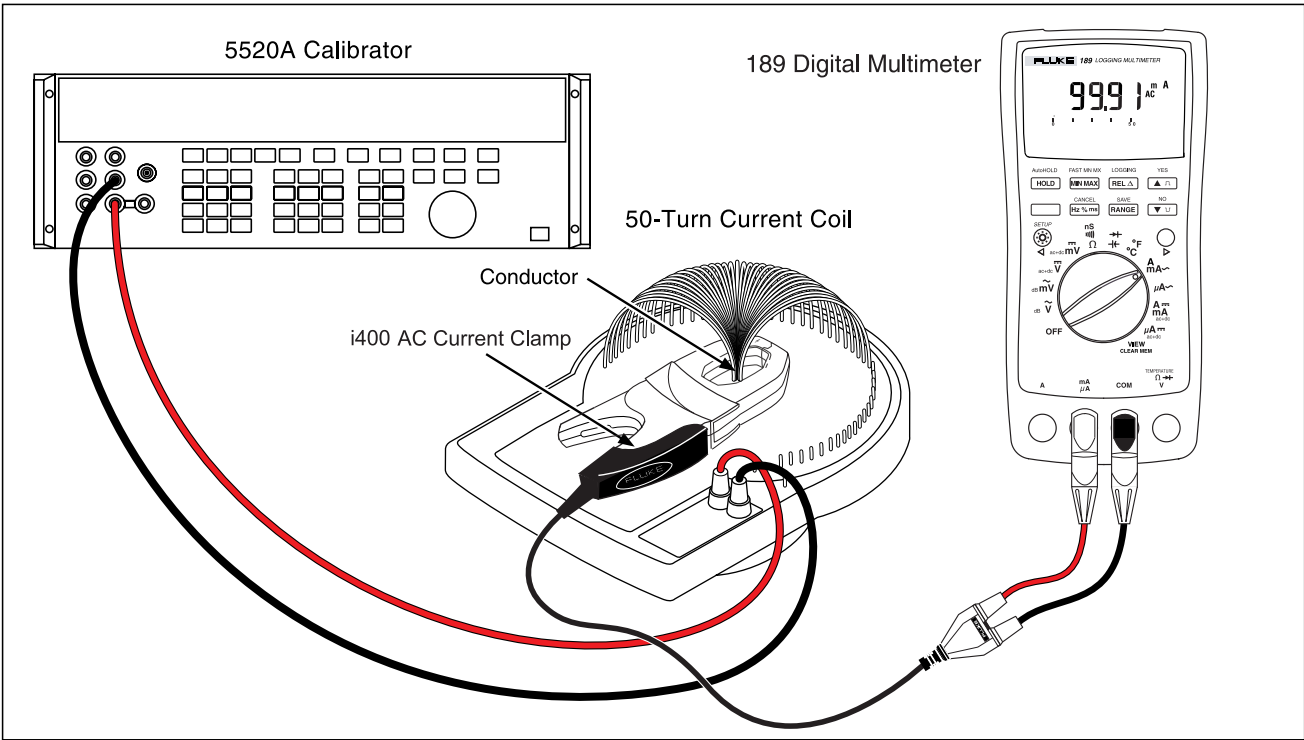

Figure 3. Connections for Current-Accuracy Test (Steps 2 and 3)
5. Connect the equipment as shown in Figure 3.